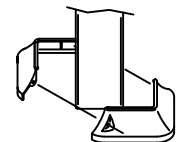

FIG. 6
If mounting plate covers (D3) are used on the surface mount and inground legs, place the covers around the legs and secure with 2 (J) screws, see FIG. 6. Bring to a snug fit. Do not over tighten.